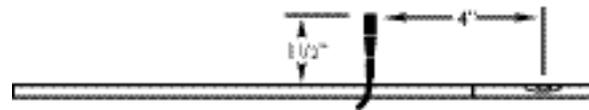

Figure 14
- For recording or low-level sound reinforcement, use tape, a rubber band, or a padded broom holder to mount a GLM-100 on the flute. Attach the GLM cable 4 inches to the left of the lip plate (looking at the player), with the mic capsule 1 1/2 inches above the flute (see figure 14).